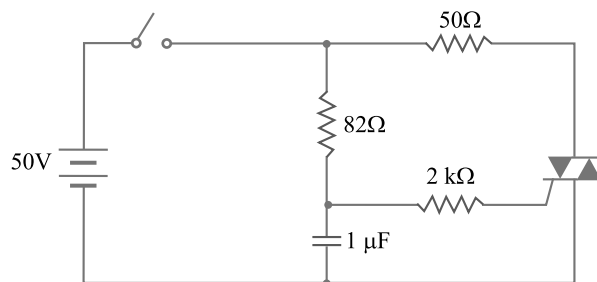

Fig. 19.16
**Example 19.4.** In Fig. 19.16, the switch is closed. If the triac has fired, what is the current through  $50\Omega$  resistor when (i) triac is ideal (ii) triac has a drop of  $1V$ ?